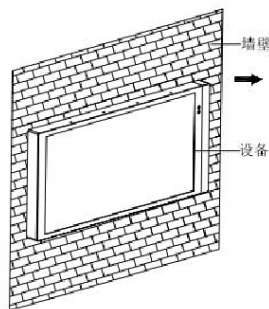

图7
Pull the installations out toward the horizontal direction and spring buckle and magnetic attraction fall off, then the disassembly is finished, as shown in Fig.7;
- 将设备水平向外拉拔，弹簧卡扣和磁吸脱落，即可完成拆卸。如图 7 所示；